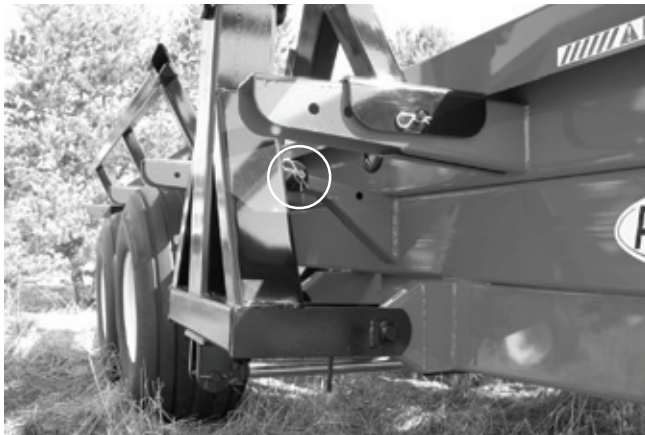

Figure 10
- 5) When not in use, always lock the loading arms with the pin provided. (Figure 10, page 9)
- 8) Operate all hydraulic functions in order to purge the system. **Do not forget to remove the pin locking the loading arm in the upright position (Figure 10) and assure there is no one within 10 feet of the loading area.**